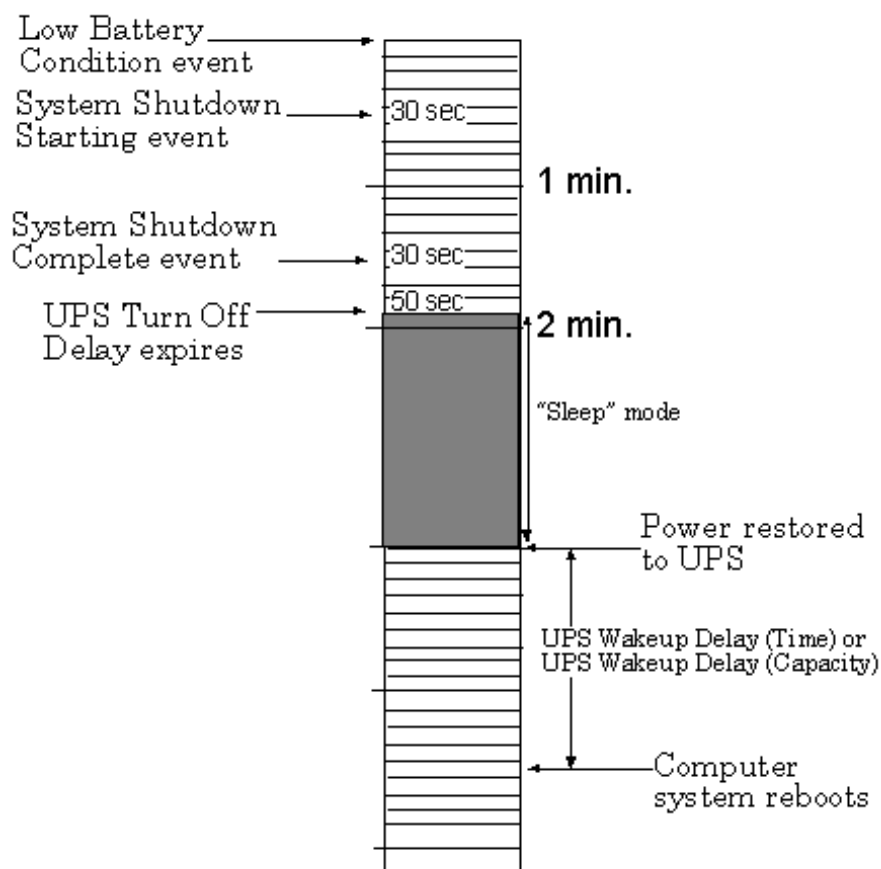

Figure 2: Timeline of Shutdown on low battery
**Figure 2, Timeline of Shutdown on low battery** on the next page shows the timeline of events that occurs during a power outage when remaining battery run-time reaches UPS Low Battery Signal Time. Following is an analysis of the timeline of events.